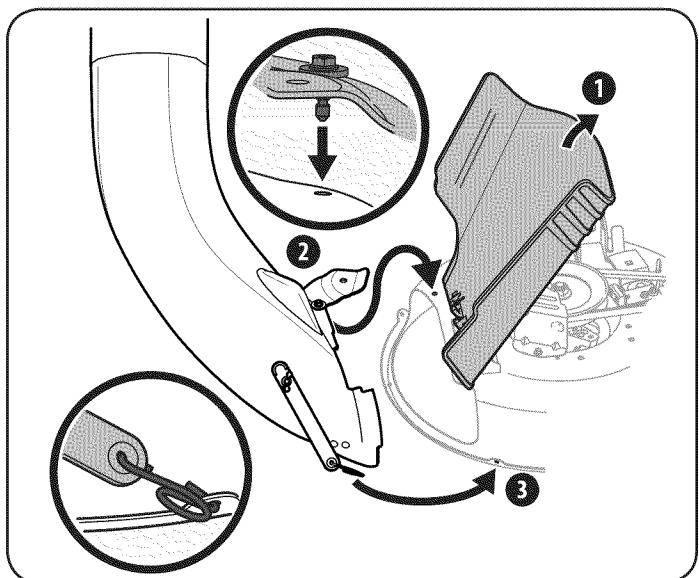

Figure 21
**Note:** On decks without deck wheels, hook the retainer strap into the hole provided in the flange on the front-side of the cutting deck. See Figure 21.